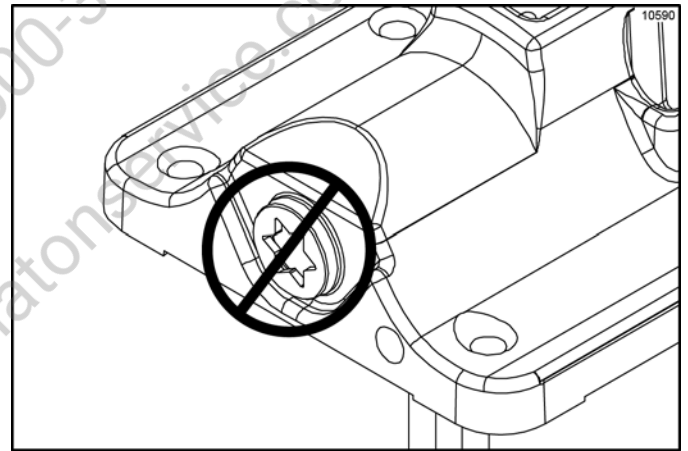

Figure 6-121
**Note:** Do not attempt to remove the star design from the door. The star design is part of the door and is **not** a removable piece. (See Figure 6-121.)